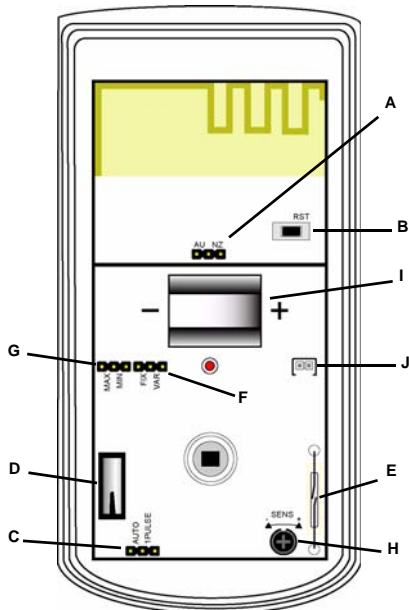

Figure 1 EN1261HT components
2. Install the battery in the battery clip, ensuring the battery connector cable is on the same side as the battery connector, shown as item J in Figure 1.